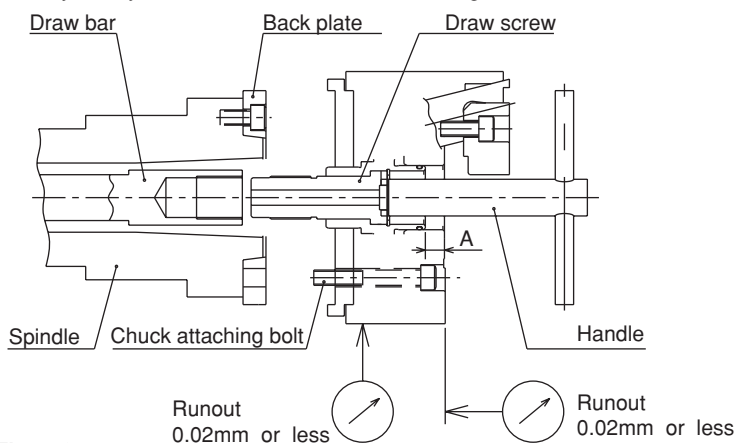

Fig. 13
- The appropriate position of the plunger at the cylinder forward end is the position when the dimension A in Fig.13 becomes as shown in the table below.